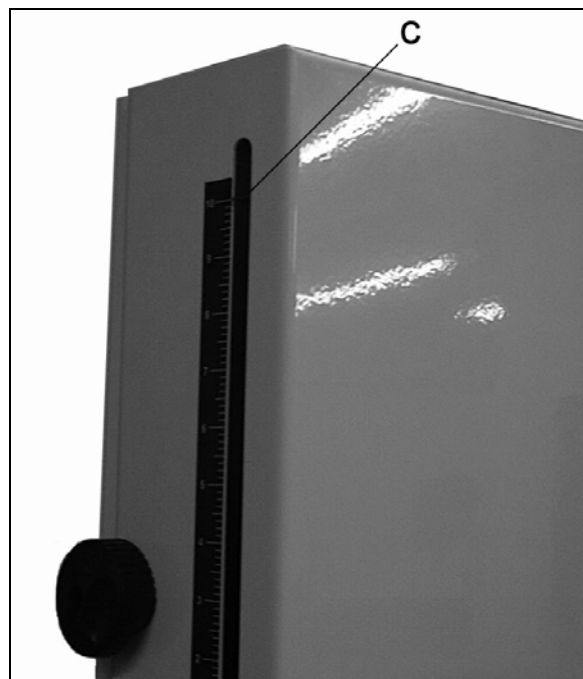

Figure 15
4. Set the indicator to this measurement on the height scale. Grasp the end of the indicator (C, Fig. 15) between your finger, and thumb. Move the indicator into position.